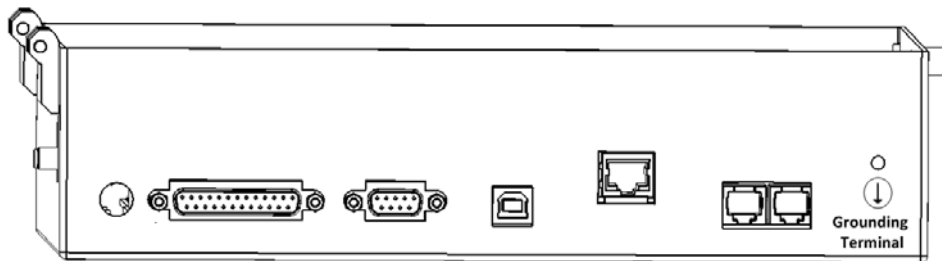

Figure 2: Grounding Terminal
2. Connect the ground cable to the dedicated ground terminal (Figure 2).